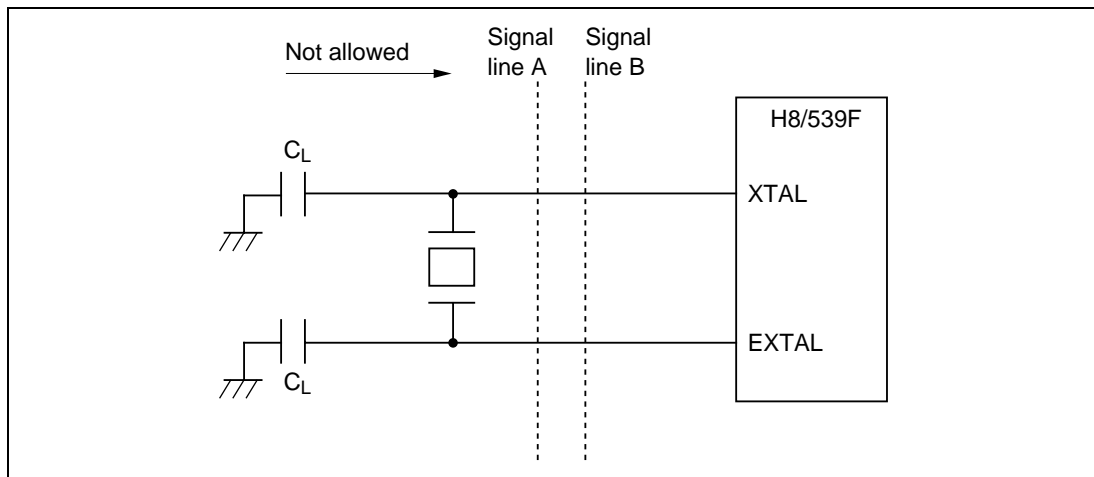

Figure 9-4 Example of Incorrect Board Design
(3) Notes on Board Design: When a crystal resonator is connected, the following points should be noted:
- Other signal lines should be routed away from the oscillator circuit to prevent induction from interfering with correct oscillation. See figure 9-4.